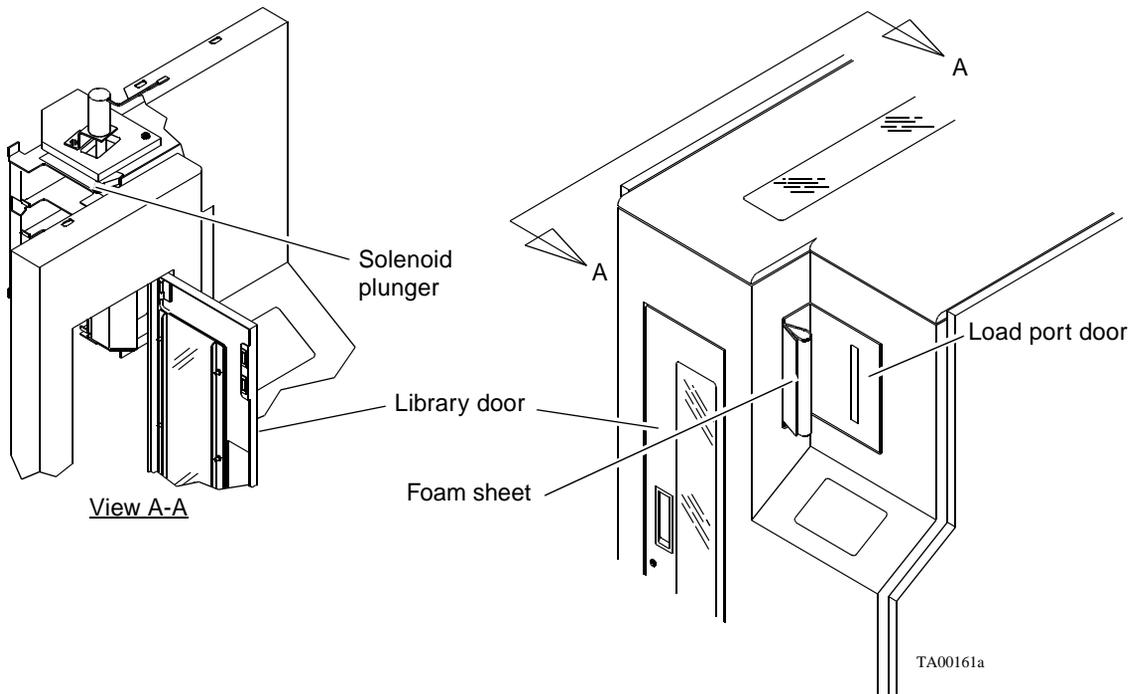

FIGURE 2-10 Lifting Solenoid Plunger to Release Foam Sheet
7. To remove the foam sheet from the load port door, release the door by lifting the solenoid plunger (FIGURE 2-10).
8. Open the front library door (FIGURE 2-10), remove the foam sheet, then close the door.